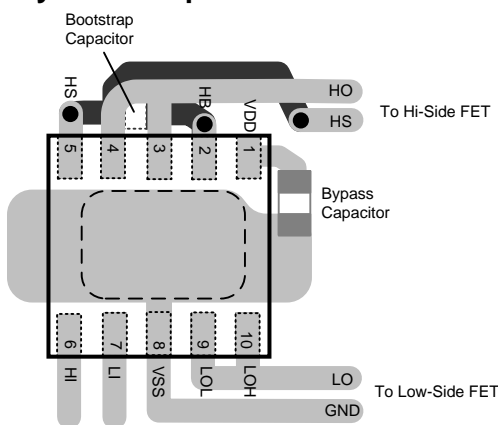
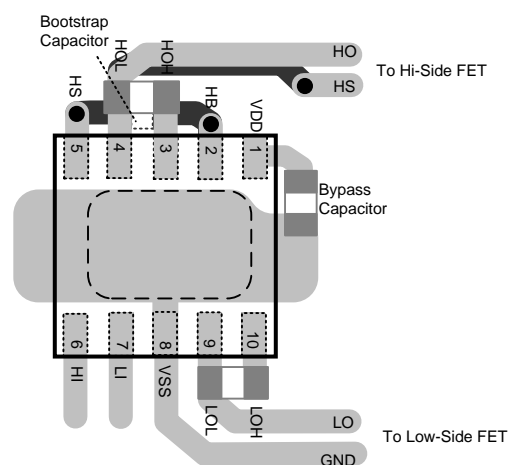

Figure 24. 10-Pin WSON Without Gate Resistors
Figure 25. 10-Pin WSON With HOH and LOH Gate Resistors
Figure 24 and Figure 25 show recommended layout patterns for the 10-pin WSON package. Two cases are considered: (1) Without any gate resistors, and (2) with an optional turnon gate resistor. Note that 0402 surface mount package is assumed for the passive components in Figure 24 and Figure 25.